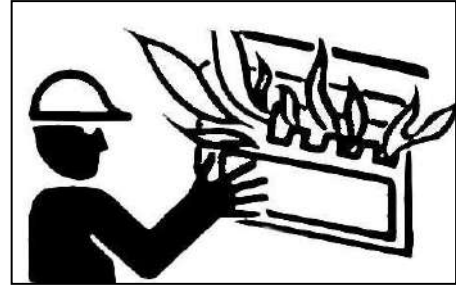

Figure 1.19
- 2) After stopping engine, the surrounding temperature may rise immediately (As figure 1.19). Open overhaul gate to cool engine as soon as possible and clean engine apartment.